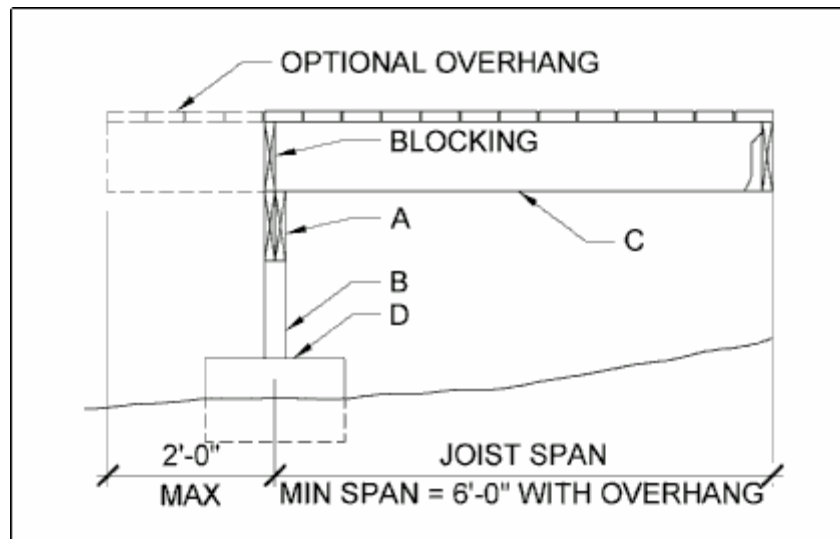

Figure 1 - Joist Span – Deck Attached at House
4. Determine how big and what configuration you want your deck. Note: The drawings contained in this document may indicate square or rectangular configurations; however, configurations can be diamond, trapezoidal, or other shapes as long as the longest spans are used to determine beam, joist, and footing sizes. The deck can have up to a two-foot maximum joist and/or beam overhang. See Figures 1, 2, and 3. (Beams are identified as item "A", posts as item "B", joists as item "C," and footings as item "D."). **It is recommended that you first determine the joist span "C," and then note what beam and footing sizes you will need.**
The span of a joist is measured from the centerline of bearing at one end of the joist to the centerline of bearing at the other and does not include overhangs. Maximum joist span lengths are noted in Tables 2 and 3. See Figures 1 and 2 for joist span types.